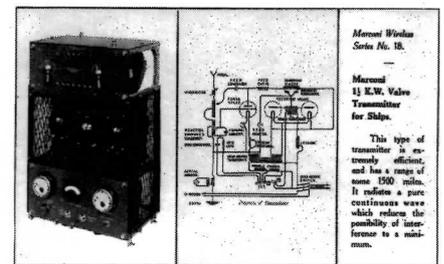
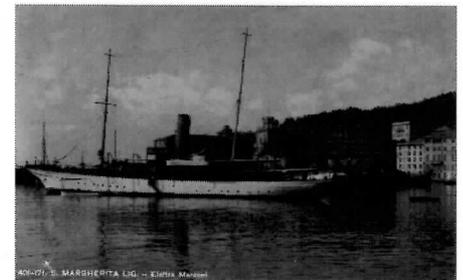

Fig. 23 'Marconi Wireless Series. No. 18. Marconi 1 KW Valve Transmitter for Ships'. Unfranked. The cards in this series carry no publisher's marks.
Fig. 24 'Elettra Marconi', S. Margherita Lighura, 401-171. Posted on 6 August 1934.
portraits of six worthies of the history of wireless: (7) Marconi (Fig. 20); (8) Lord Kelvin; (9) James Clerk Maxwell; (10) John Ambrose Fleming; (11) Heinrich Rudolph Hertz; and (12) Sir William Henry Preece. The third set consists of actual valves and apparatus with their circuits: (13) Marconi 1.5 KW Wireless Telephone and Telegraph Cabinet Set (Fig. 21); (14) Marconi Transmitting Valve; (15) Marconi Receiving Valve Type 24; (16) Marconi 1.5 KW Spark Transmitter for Ships; (17) Marconi Wireless Direction Finder (Marine Pattern) (Fig. 22); and (18) Marconi 1.5 KW Valve Transmitter for Ships (Fig. 23). In 1919 Marconi purchased his famous yacht 'Elettra' as a floating wireless laboratory. On the postcard in my collection (Fig. 24), posted from Santa Margherita Ligura on 6 August 1934, the English sightseer has written: 'Marconi's yacht is here complete with ultra-short wave aerial systems, but haven't seen him yet or any of his works'. The nearest I will probably ever get to him (at least in spirit) will be through my postcard collection. At this point I should draw Part II to a close, but will leave the final say to two comic cards. Figure 25 by Rotary Photographic Co. neatly highlights the culture shock produced by this new form of communication, while Figure 26 focuses on the love interest.